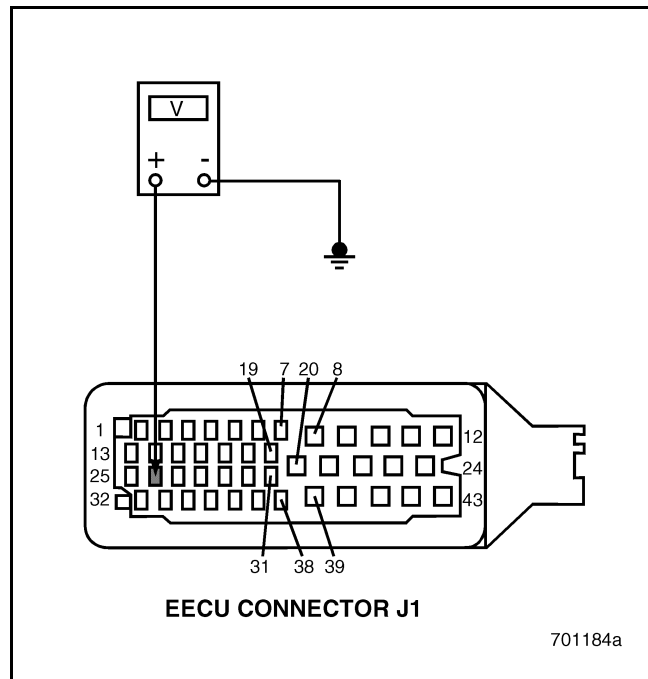

Figure 141
4. Measure the voltage between EECU connector J1 pin 26 and a good ground (see Figure 141).